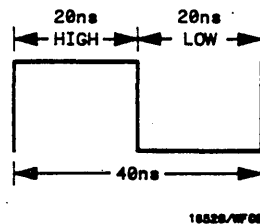

Figure 3-23. 25 MHz Square Wave
- n. Look for a 25 MHz square wave pulse stream with approximately 20 ns low times and 20 ns high times. See figure 3-23. The presence of a consistent pulse stream verifies the external clock circuits are working.